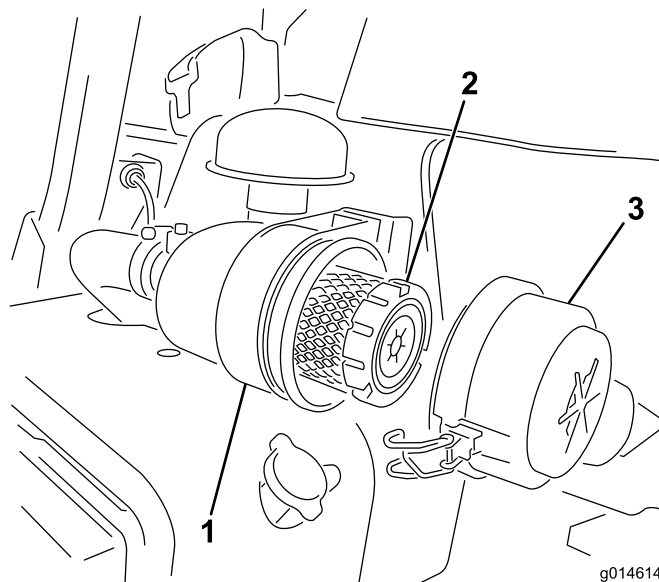

Figure 44
1. Release the latches securing the air cleaner cover to the air cleaner body (Figure 44).
6. Secure the latches (Figure 44).